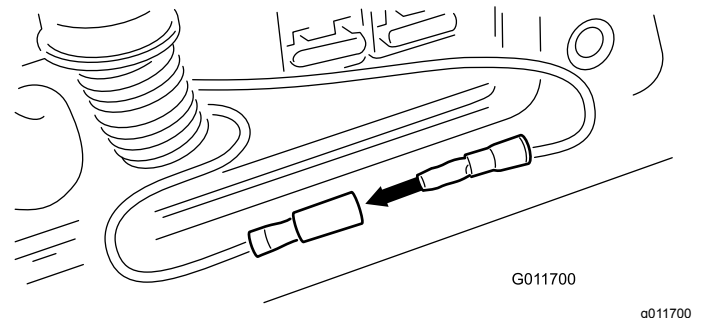

Figure 59
4. With the key in the OFF position, remove the cap from jumper wires and plug the wires together (Figure 59).